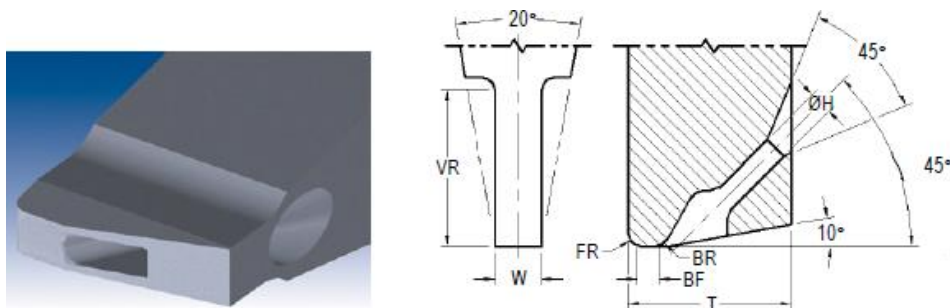

Figure 2: Wedge tip geometry
- iii. Figure 2 shows what a normal wedge looks like. The wedge on the tool may vary slightly than the figure.